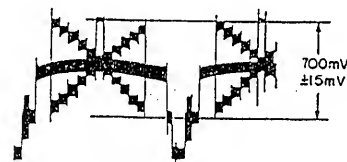

Fig. 4-7
6) AIC Level Adjustment (Figs. 4-7, 4-52)